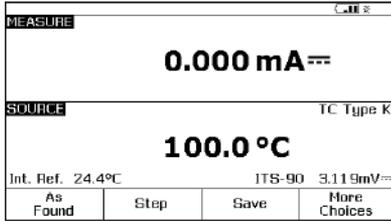

Figure 4.
- Next press the "MEAS/SOURCE" button once and you will be in the split screen mode (Figure 4).